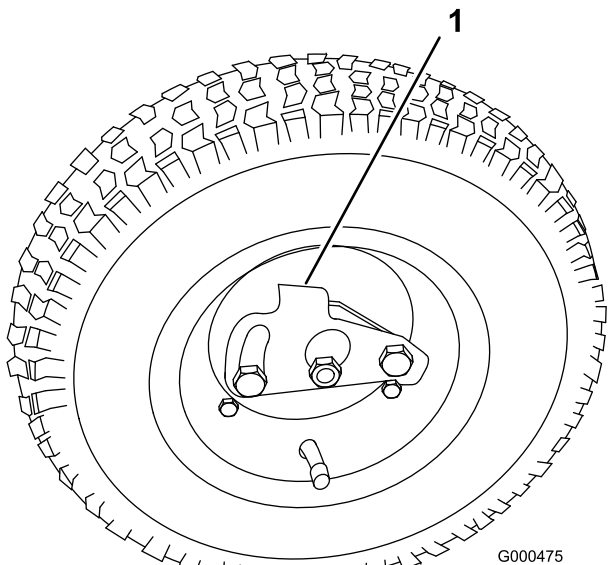

Figure 19
2. Press the wheel locking clip toward the center of wheel and slide the wheel onto the hex shaft (Figure 19).